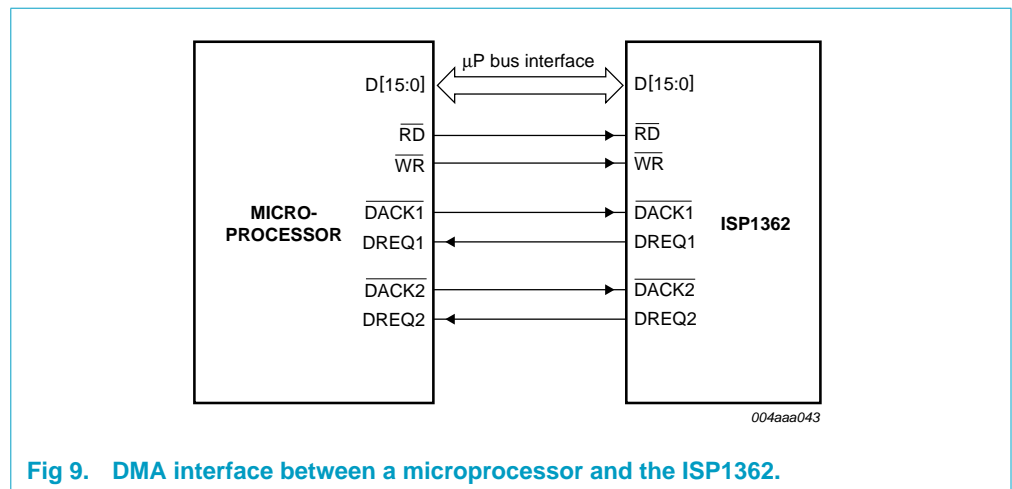

Fig 9. DMA interface between a microprocessor and the ISP1362.
**Remark:** The DMA operation must be controlled by the DMA controller of the external microprocessor system (master). Figure 9 shows the DMA interface between a microprocessor system and the ISP1362.